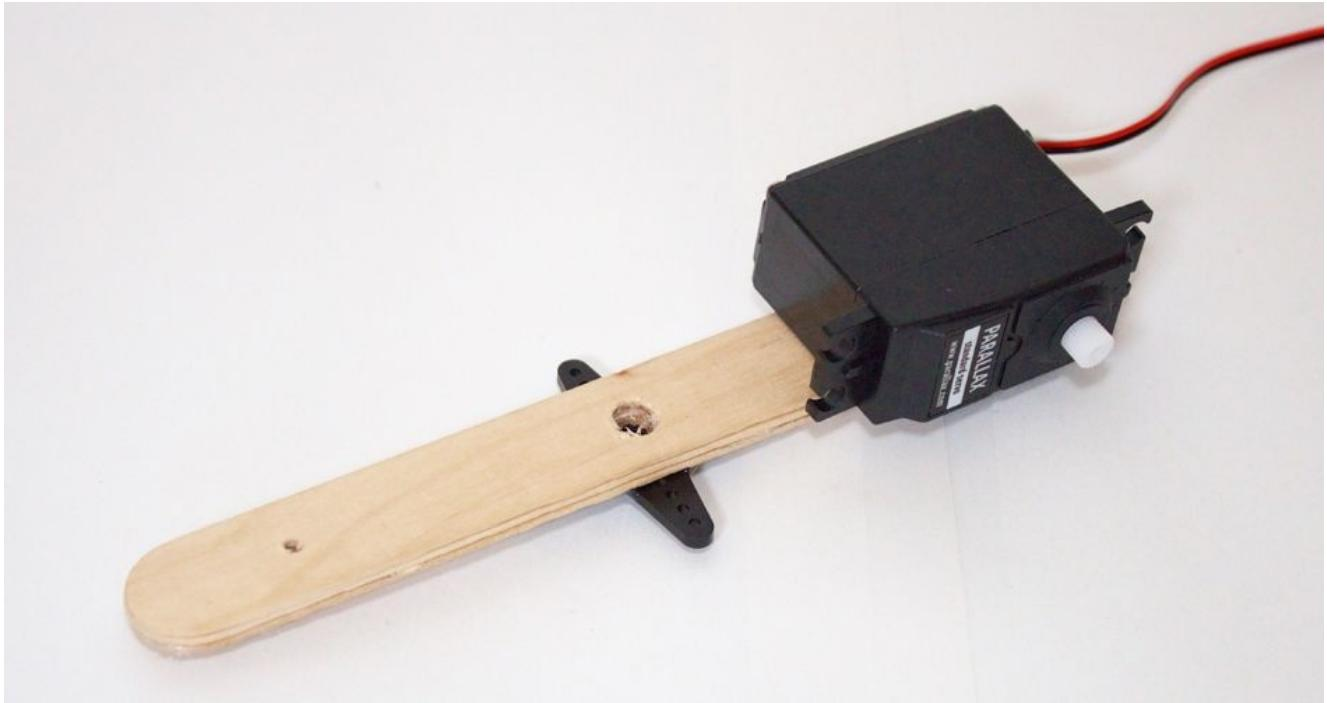

Figure 2-6. Elbow joint and arm segment
8. Press the servo to the stick set *on its side*, such that the axis is perpendicular to the end of the stick, as shown in Figure 2-6.